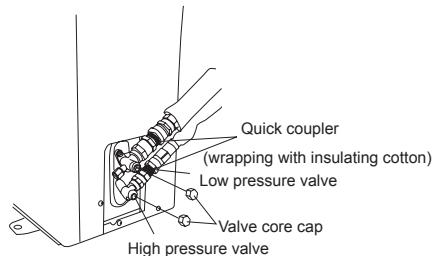

Fig. 8
4. Turn on the high and low pressure valve cores with an socket wrench,then tighten the two valve core caps of the outdoor unit (Fig.8).